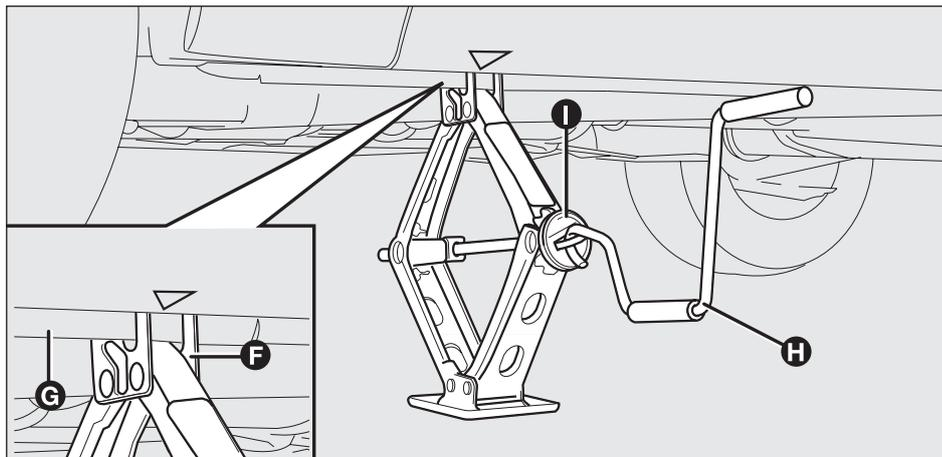

fig. 124
- ❑ ensure that the groove F-fig. 124 of the jack is well fitted onto the tab G of the side member;